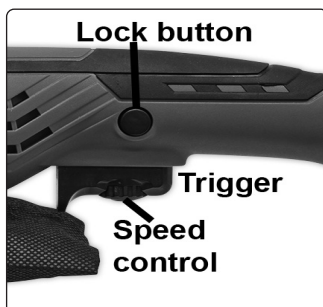

fig.1
- 4.4. Grip the side handle and turn on by pressing the trigger (fig.1). Pressing the lock button will hold the trigger and allow for continuous running.
- 4.6. The speed of the sander can be adjusted using the speed control (fig.1) within the trigger, turn the control clockwise to increase the speed or anti-clockwise to reduce the speed.